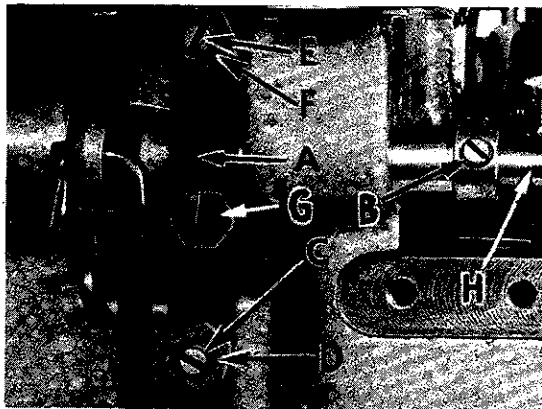

Fig. 16
Assemble the presser foot to presser arm. With needle in high position, swing presser arm into sewing position and set the presser foot to align needle holes (front and back) and flat on throat plate. The front edge of needle hole in presser foot must be aligned with front edge of needle hole in throat plate. It is also important that the bottom of the presser foot be flat on the throat plate. If necessary, presser foot can be re-aligned with throat plate slots by shifting the foot lifter lever shaft (H, Fig. 16). To
move the shaft, loosen collar screws (B, Fig. 16) and clamp screw (G) and then shift the foot lifter lever shaft to the left or right as required. Retighten collar screws and clamp screw.
The foot lifter lever arm (A, Fig. 16) and the collar (B) secure the shaft. Be sure the presser arm does not bind and rise when presser foot release bushing is unlocked.